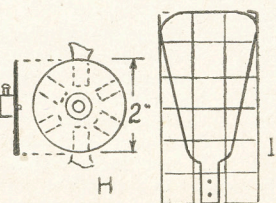

Fig. 4—Vane disc and shape
For the rotary windvanes, cut a disc of stout tin, or thin sheet brass, to size at (H), in Fig. 4. Centre this, drill a  $\frac{1}{8}$ in. hole, and over the hole solder another brass collar, with screw. It may be mentioned that the collars and rod can be Meccano parts, and so solve the difficulty of both fitting the discs on, and trouble in obtaining the materials. To this disc the 6 vanes will be fixed, at equal distances apart, as shown by the dotted outlines.